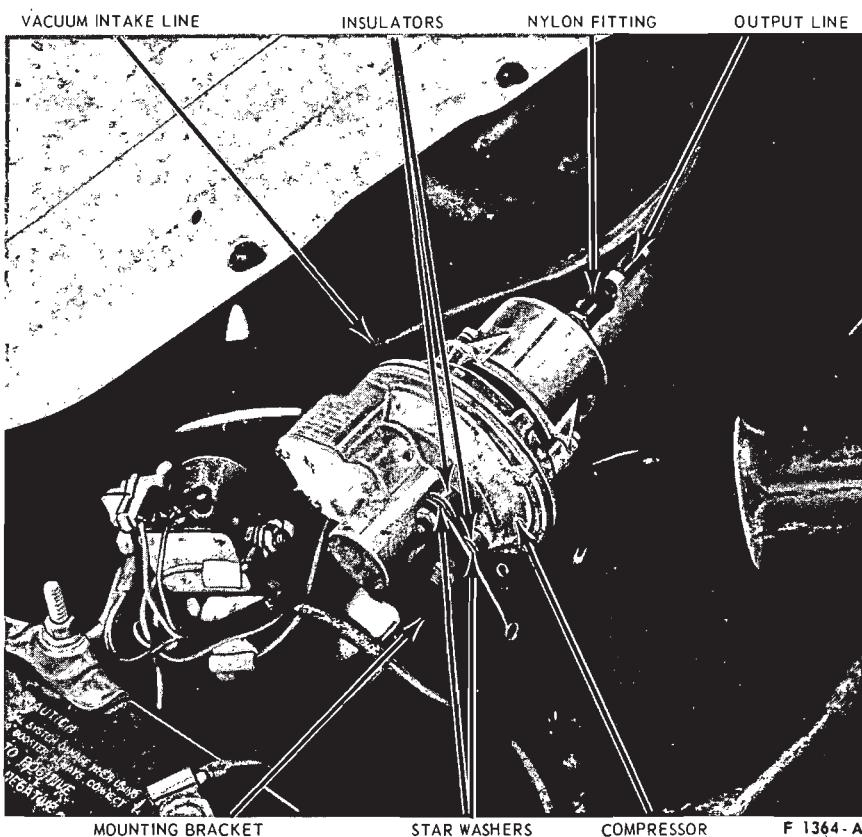

FIG. 2—Compressor Installed
1. Slip the vacuum line off the intake fitting on the side of the compressor (Fig. 2).
4. Connect the output line to the nylon fitting at the rear of the compressor (Fig. 2).